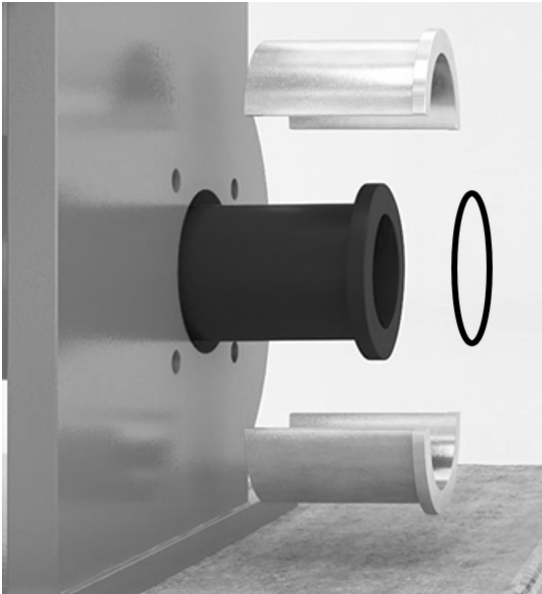

Figure 19.
4. Push the ends of the hose through the through holes so that they are approximately 4 inches outside the body (refer to *Figure 19*).